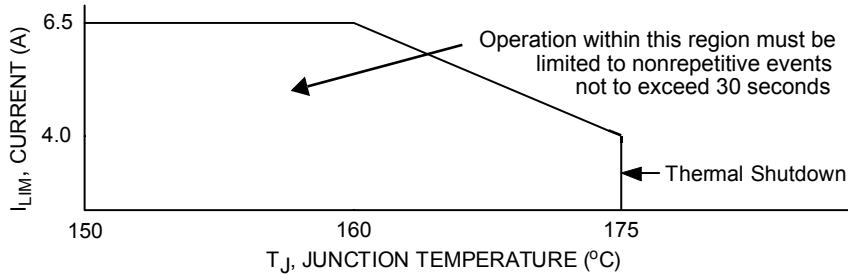
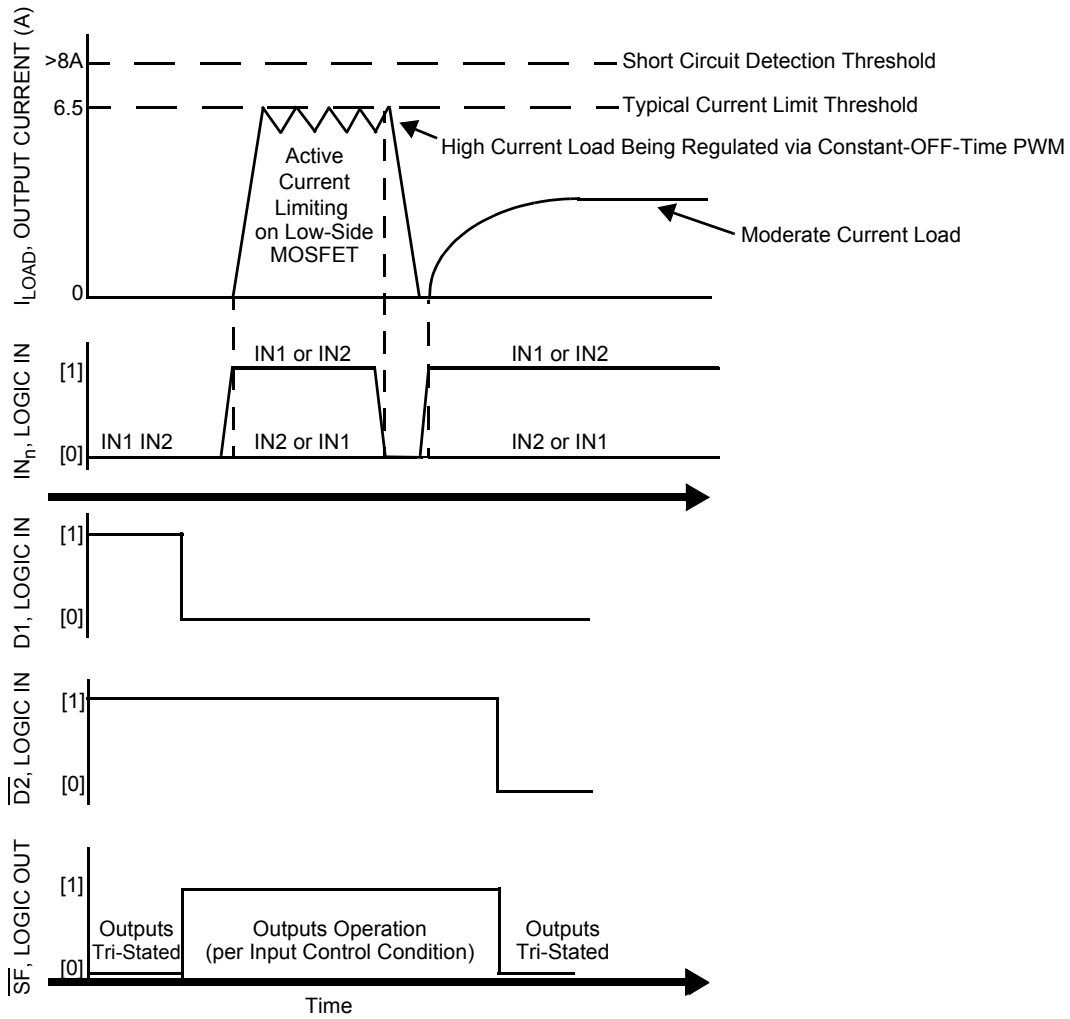

Figure 5. Active Current Limiting Versus Temperature (Typical)
Figure 6. Operating States
27. Load currents ramping up to the current regulation threshold become limited at the I_{LIM} value. The short circuit currents possess a di/dt that ramps up to the I_{SCH} or I_{SCL} threshold during the I_{LIM} blanking time, registering as a short circuit event detection and causing the shutdown circuitry to force the output into an immediate tri-state latch-OFF. See Figures 6 and 7, page 12. Operation in Current Limit mode may cause junction temperatures to rise. Junction temperatures above $\sim 160^\circ\text{C}$ will cause the output current limit threshold to progressively “fold back”, or decrease with temperature, until $\sim 175^\circ\text{C}$ is reached, after which the T_{LIM} thermal latch-OFF will occur. Permissible operation within this foldback region is limited to nonrepetitive transient events of duration not to exceed 30 seconds. See Figure 5, page 11.
The current limiting threshold value is dependent upon the device junction temperature. When $-40^{\circ}\text{C} \leq T_J \leq 160^{\circ}\text{C}$, I_{LIM} is between 5.2 A to 7.8 A. When T_J exceeds 160°C , the I_{LIM} current decreases linearly down to 4.0 A typical at 175°C . Above 175°C the device overtemperature circuit detects T_{LIM} and overtemperature shutdown occurs (see Figure 5, page 11). This feature allows the device to remain operational for a longer time but at a regressing output performance level at junction temperatures above 160°C .